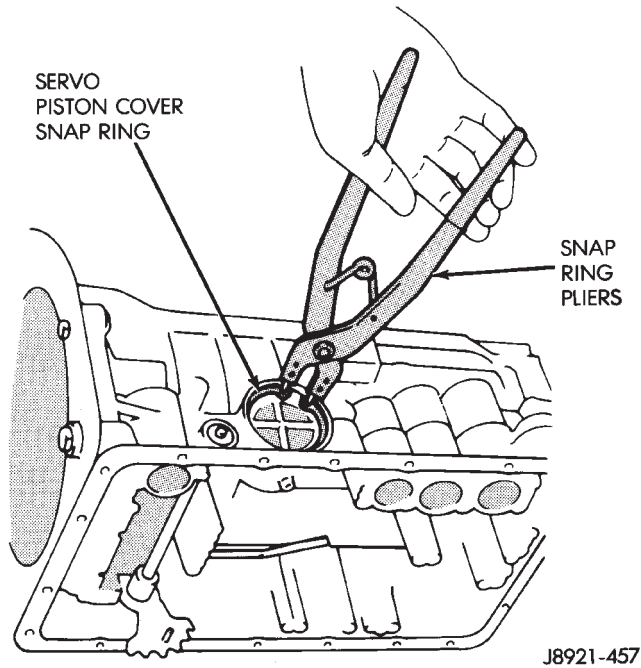

Fig. 73 Removing/Installing Servo Piston Cover Snap Ring
(2) Remove servo piston cover snap ring with snap ring pliers (Fig. 73).